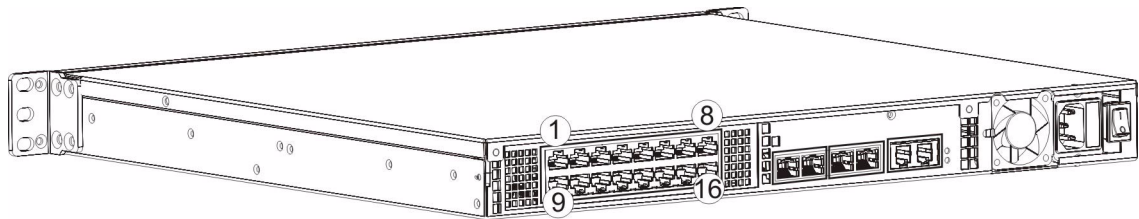

Figure 2.6 16-Port Interface to the PSTN
A TMP6400 with 16 RJ48 ports enables the connection to T1/E1/J1 lines. See figure 2.6 on page 17
1. Start with port 1 located at the top and left-most position. Connect one cable between this port and the T1/E1/J1 line. figure 2.6 on page 17